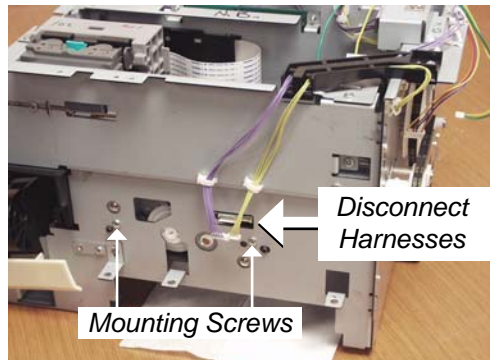

Figure 5-16 Purge Unit Removal
2. Disconnect two wire harnesses as shown (Figure 5-16).
4. While holding the purge unit, remove two mounting screws as shown (Figure 5-16).